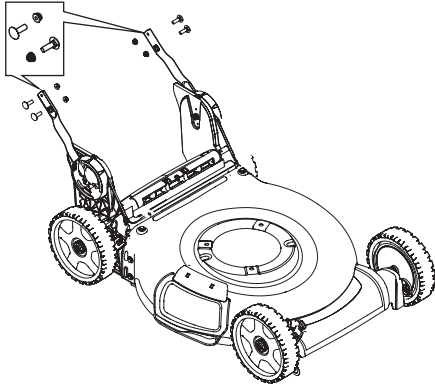

Figure 6
- Remove the four carriage bolts and nuts from the lower handles (Figure 6).